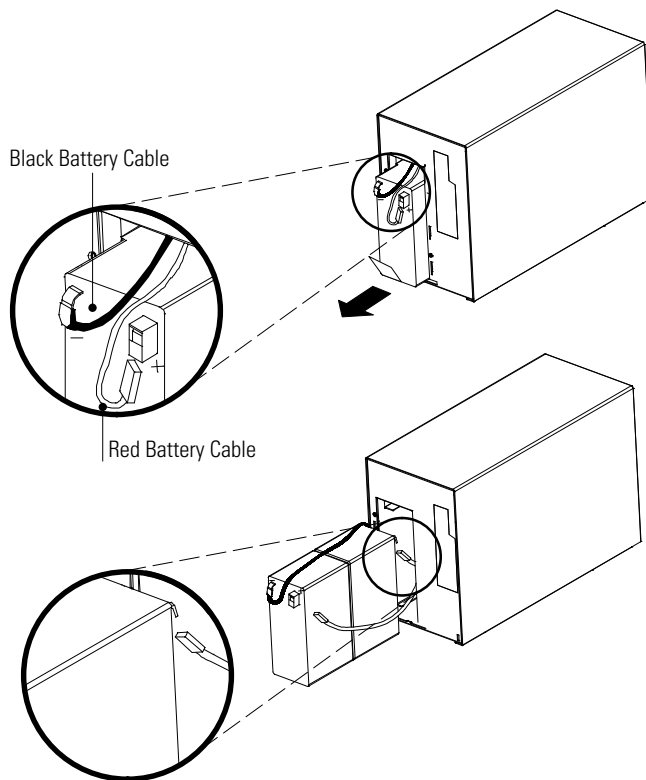

Figure 25. Battery Removal (1000 VA Models)
3. **1000 VA models.** Disconnect the red battery cable on the front of the battery (see Figure 25). Pull the battery out onto a flat, stable surface.